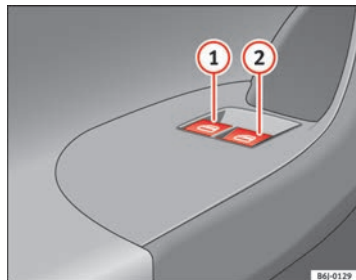

Fig. 50 Detail of the driver door: controls for the front windows.
Buttons ⇒ Fig. 50 ① and ② have two positions for opening the windows and two for closing them. This makes it easier to open and close windows to the desired position.